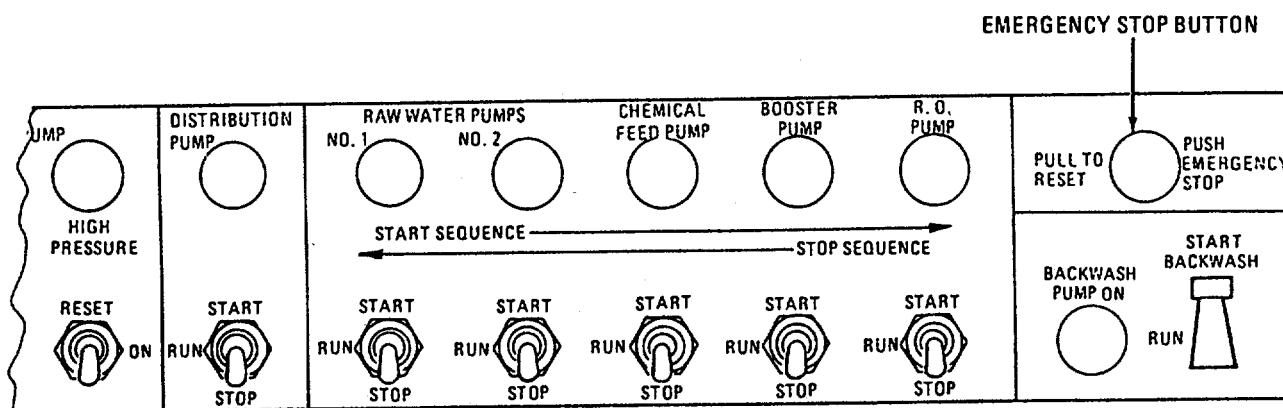

FIGURE 2-48. EMERGENCY STOP BUTTON
(1) Open junction box cover (figure 1-9) and push circuit breakers CB-1 thru CB-9 (figure 2-4) to on position (up). Pull out EMERGENCY STOP switch (figure 2-48).
(2) Push TEST LAMP switch to check all lights and adjust dimmer knobs.